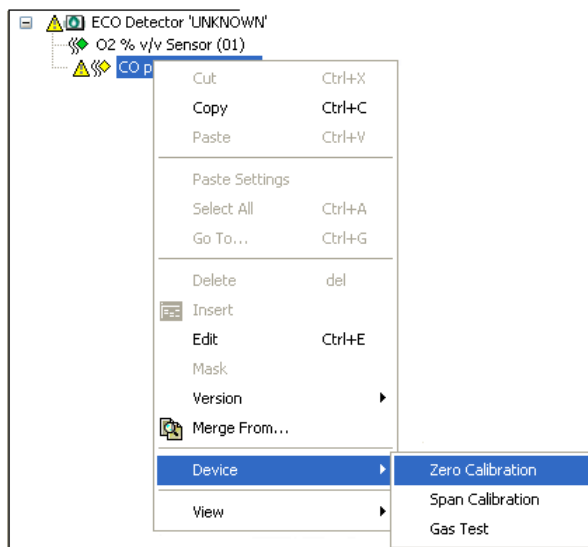

Figure 39 Zero and Span Calibration menu options.
- Right click on the sensor to be calibrated in the detector overview window. A menu will pop-up as shown in Figure 39